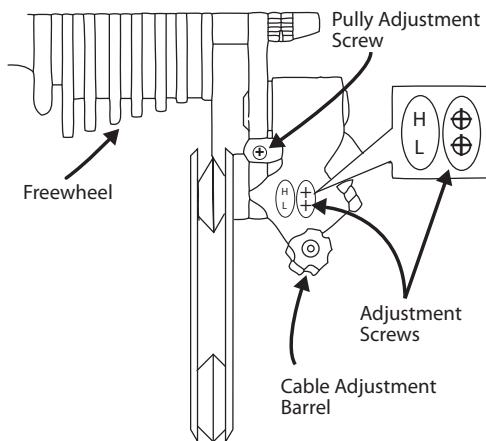

Fig. 54: Rear derailleur parts. View from the rear.
6. Cable tension is adjusted by turning the Cable Adjusting Barrel, which is located at the junction of the cable and the shifter or rear derailleur (Fig. 54). To increase tension, turn the knurled knob counterclockwise, to decrease tension, turn the knob clockwise. Turn until the problem is corrected.